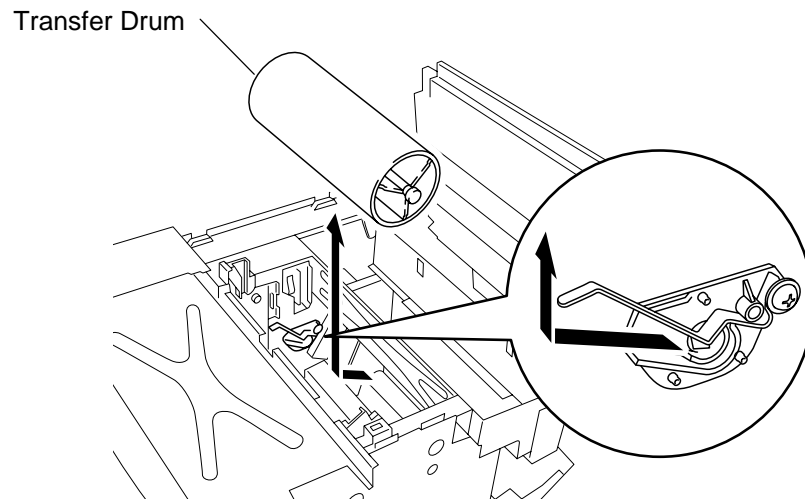

Fig.7-36
- 3) Push the transfer drum up and forwards from the transfer unit side. (Refer to Fig.7-36.)